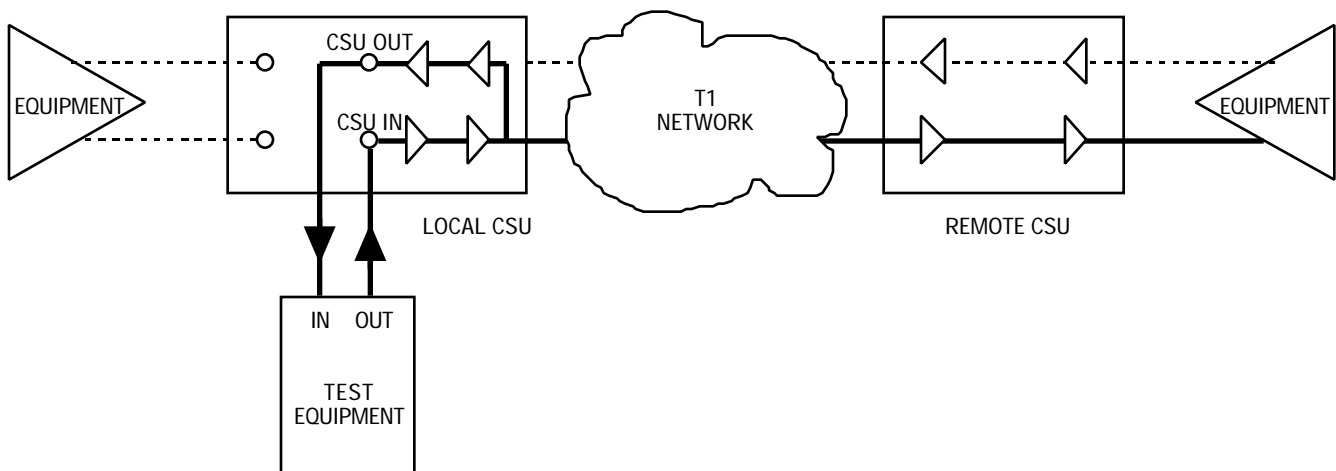

FIGURE 4-6. DS1 LOCAL TEST
DS1 Local Test (LT), illustrated in Figure 4-6, loops a locally-generated test message through the CSU and back to the test equipment for verification. As much as is practical of the CSU's circuitry is utilized in this test. During this test, data is also transmitted to the T1 link, with pulse density constraints, but data is not received from the line.